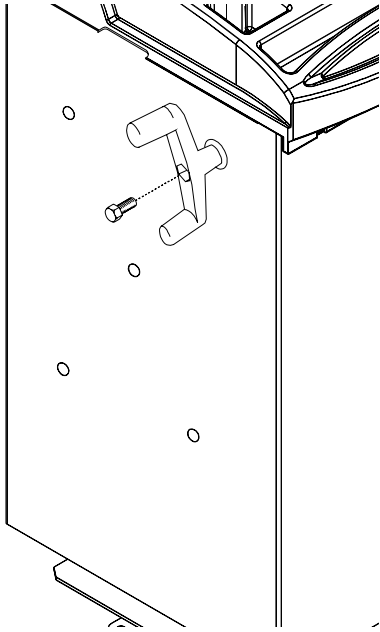

Figure 6
**b.** Locate hand crank handle and associated screw-nut and mount hand crank to the left side of the mounting shaft as shown in Figure 6. **NOTE:** The crank screw uses a left hand thread. Do not over-tighten. Make sure threads and mating surface is clean prior to assembly. Refer to Figure 6 for detail.